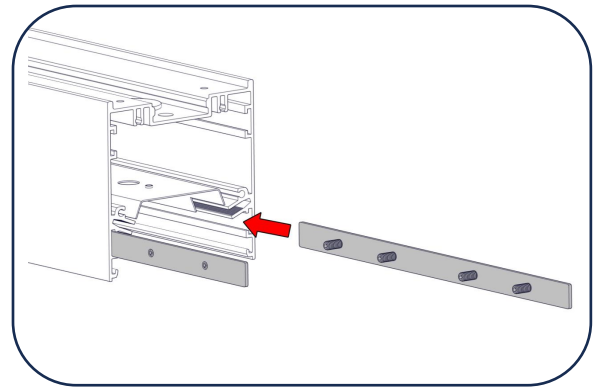

Figure 5
18. Insert **Inner Joiners** into Side B of the starter fixture, [Figure 5]. Tighten with a Hex Key or Ratchet.